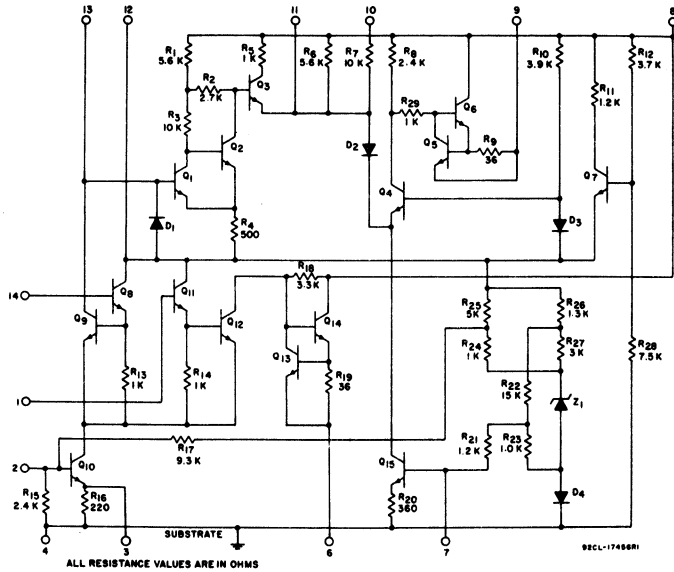

Fig. 6 - Schematic diagram for CA3071.
1. APC ADJUST: With  $S_2$  in "OFF" position adjust the "APC ADJ" potentiometer to set oscillator frequency at 3.579545 MHz  $\pm 25$  Hz. With  $S_1$  in position 1 measure frequency at terminal No. 2 output, using crystal probe shown in Fig. 6.